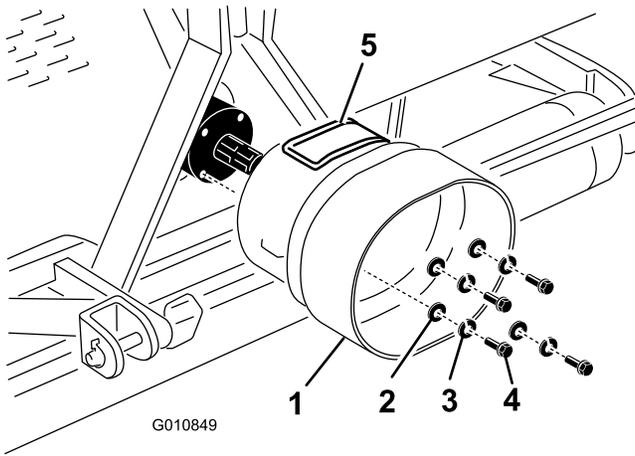

Figure 18
1. Remove the 4 bolts, lock washers and flat washers secured to the rear of the aerator gear box (Figure 18).
2. Mount the PTO shield to the aerator gear box with the fasteners previously removed (Figure 18). When mounting the PTO shield, make sure the access panel (Figure 18) is positioned to the top or side depending on the aerator frame configuration.
Note: The access panel (Figure 18) can be opened to ease the removal and installation of the PTO shaft mounting fasteners.